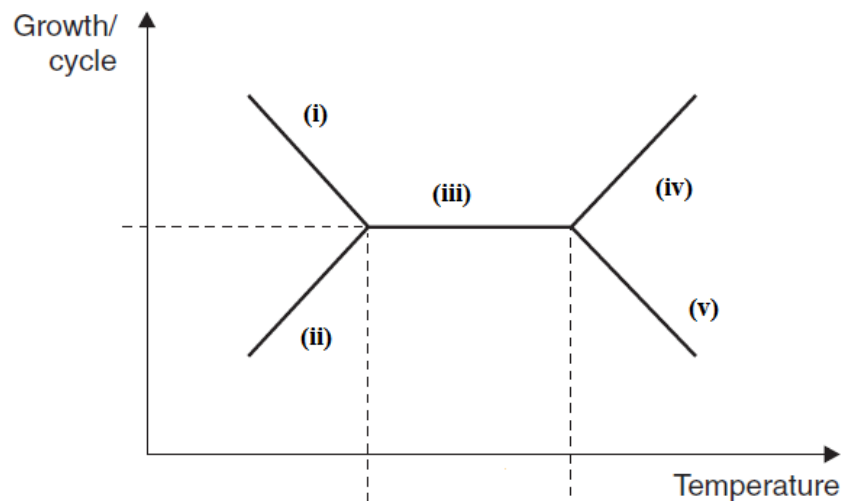

Figure 3: Thin film deposition rate of ALD as a function of deposition temperature
- [b] There are five possible trends of growth rate could be observed during thin film deposition by the ALD technique as shown in Figure 3. Label and discuss briefly these deposition trends.